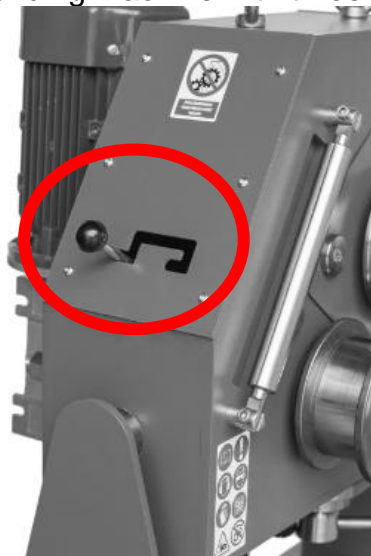

Fig. 12. Handle activating the drive of the top roll: position for engaged top roll drive
3. Switch the handle of the top roll drive to the position indicated in fig. 12. If this goes difficult – rotate the top roll slowly by hand while attempting to switch the handle.